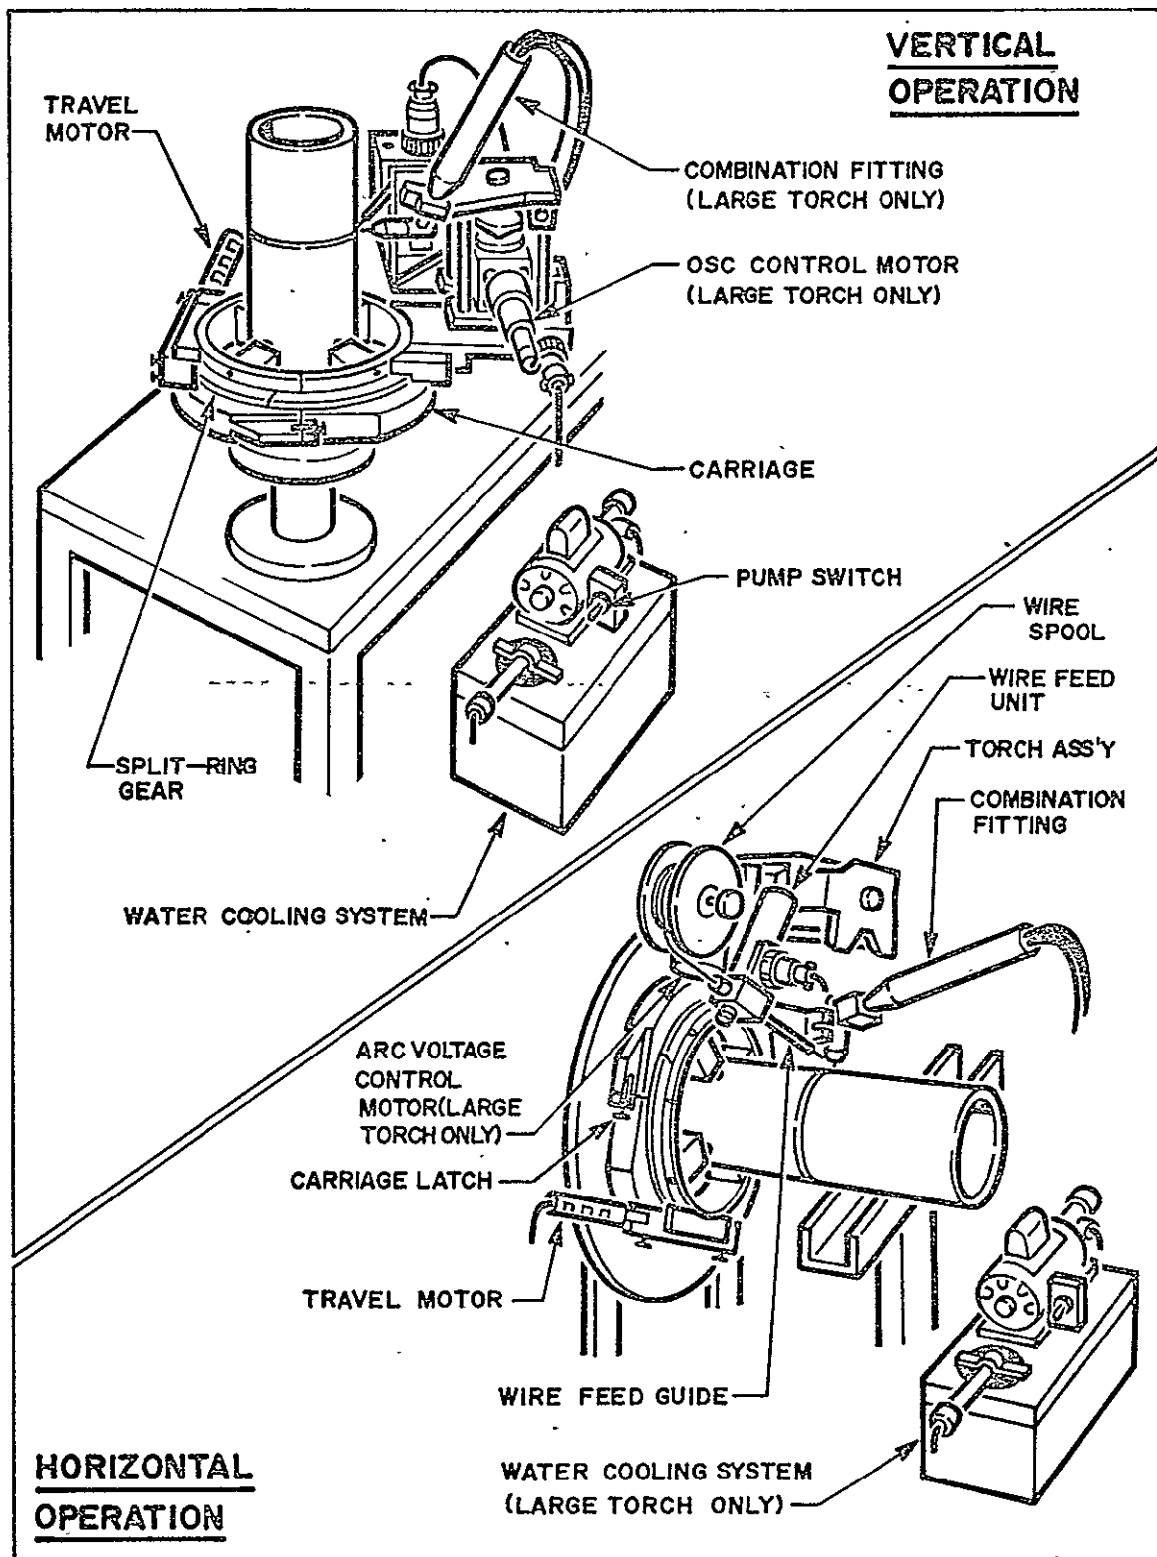

Figure 3. Large Carriage and Torch Assembly - Vertical and Horizontal.
1.2.3 Functional Description of the Carriage and Torch Assembly, Figure 3.-The APW-3 (Modified) automatic pipe welding systems carriage and torch assemblies consists of a large carriage and torch assembly that will accommodate piping (workpiece) from 6-16 inches in diameter and two small carriages (3/8-1 inch and 1-1/4 to 2-1/2 inches) and torch assemblies that will accommodate piping (workpiece) from 3/8-1 inch, and 1-1/4 to 2-1/2 inches. The large carriage and torch assembly utilizes a water cooling system that is not applicable to the small carriages and torch assemblies.
2.4.2 Installation of the Carriage and Travel Motor, (Figure 3).